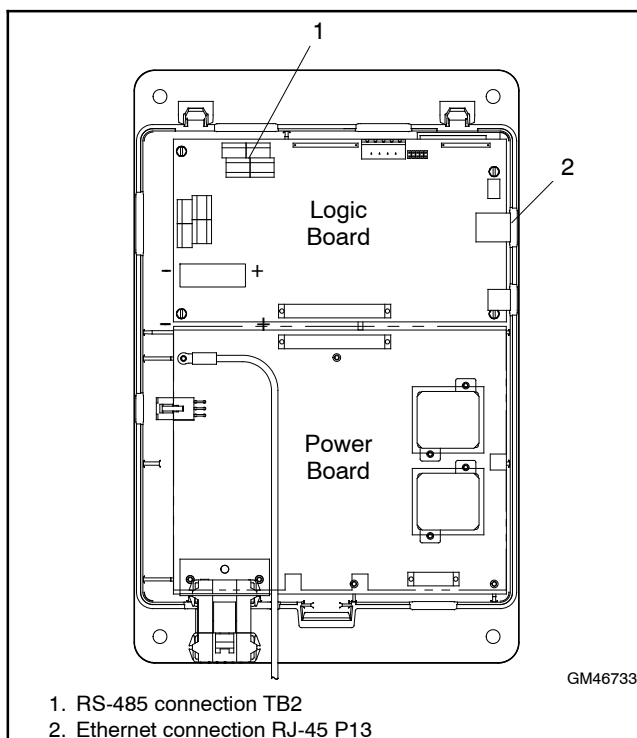

Figure 10-2 ATS Controller, Cover Removed
2. Ethernet connection: Use CAT5 network cable to connect to RJ-45 connector P13 on the controller. See Figure 10-2 for the connector location.
- a. Remove the controller housing cover to gain access to connector TB2.. See Figure 10-2.